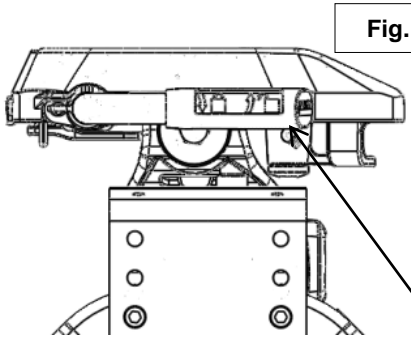
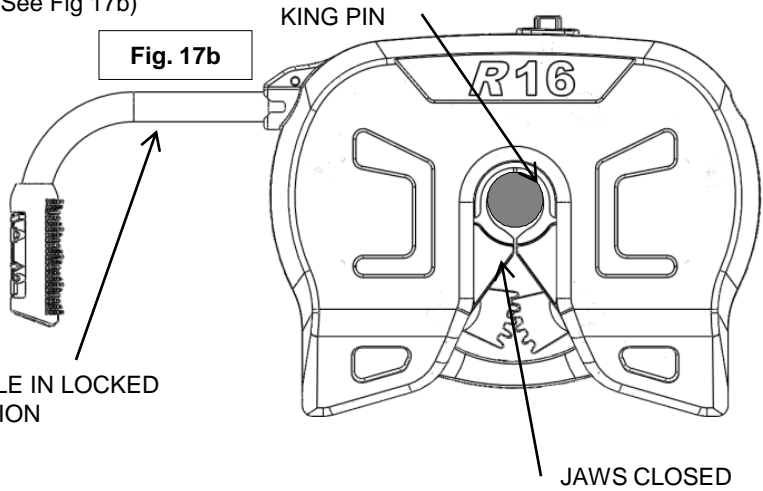

**Fig. 15
**Fig. 16
7. With all trailer wheels still firmly blocked, landing gear still resting on firm ground and supporting trailer weight, and truck stationary and in park with the emergency brake on: visually check that bottom of pin box is resting on top of the hitch. **THERE SHOULD BE NO SPACE BETWEEN THESE SURFACES** (See Fig 15). If space exists, (See Fig 16) trailer has not been properly hitched. **DO NOT TOW!** Instead, repeat above steps until trailer is properly hitched. **DO NOT PLACE BODY UNDER TRAILER TO PERFORM THIS INSPECTION!**